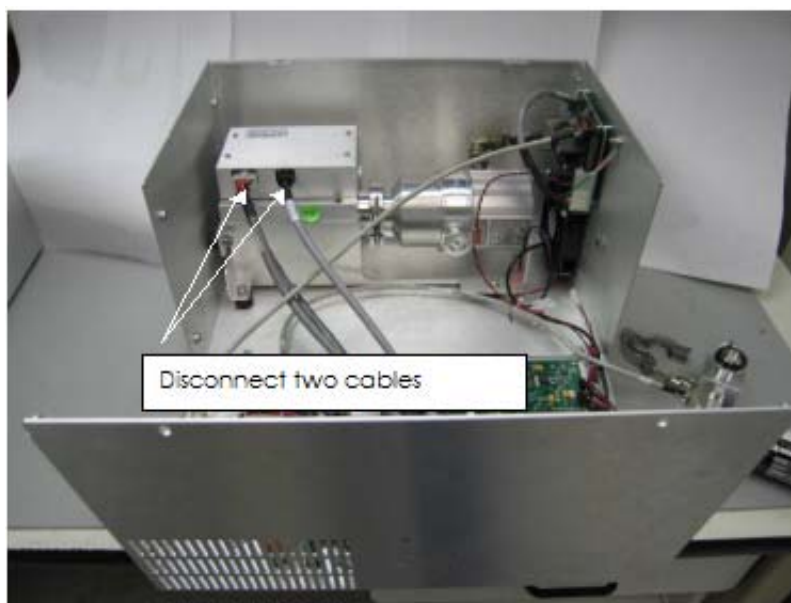

Figure B-77 Cables To Spectrometer
5. Disconnect both cables from the spectrometer (Figure B-77).